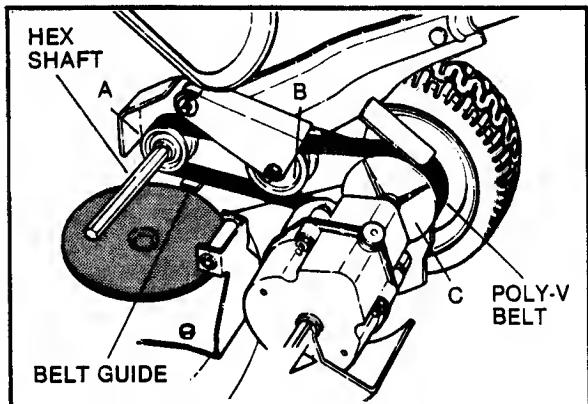

FIG. 18 -POLY-V BELT REPLACEMENT
**POLY-V-BELT REPLACEMENT:** The driven disc assembly must be removed first. Note the arrangement of the old belt around the three pulleys before cutting and removing it. Slip the replacement belt over the end of hex-shaft and onto pulley (A). Then work it onto idler pulley (B) and twist it sideways and pull upward between the differential bracket and transmission pulley (C) and then down into the pulley's groove. Make sure the belt is in each pulley's groove! Refer to FIG. 18.